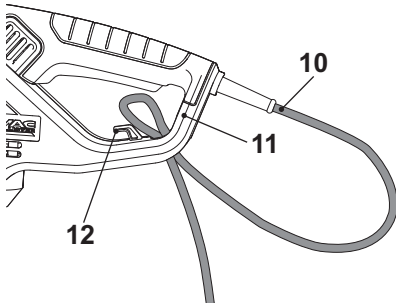

Fig. 4
1. Double the power cord (10) back, about 60 cm from the power guard and lead the loop through the hole of the rear safeguard (11) (Fig. 4).